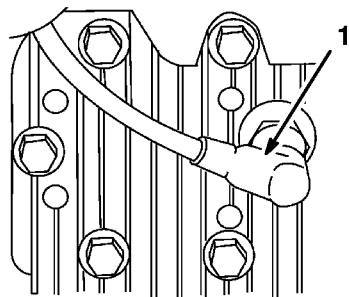

Figure 33
3. Remove spark plug (Fig. 33) and spin engine rapidly using starter to blow excess oil from the cylinder. Clean spark plug or replace if cracked, broken or electrodes are worn.
8. Reconnect spark plug wire (Fig. 33).